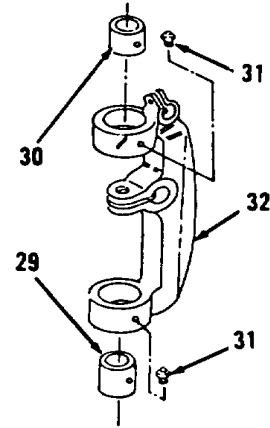
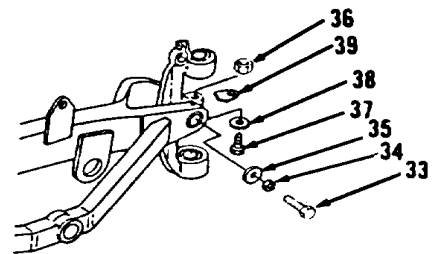
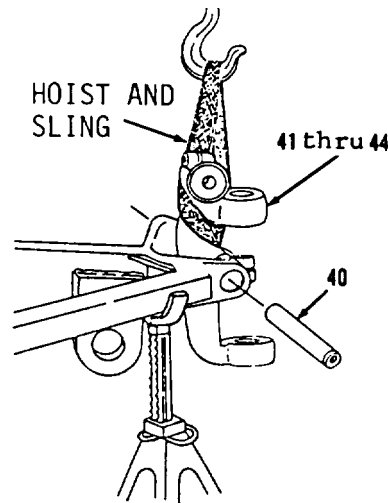
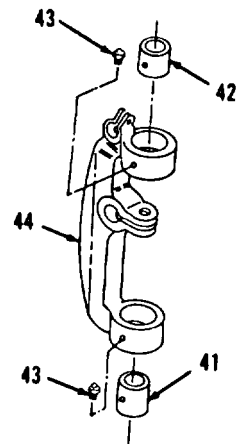

Figure 5-102.
Figure 5-103.
Figure 5-104.
Figure 5-105.
22. Using suitable puller, remove bearings (29 and 30, Figure 5-102).
23. Remove two fittings (31) from arm (32).
24. Remove two bolts (33) and washers (34 and 35, Figure 5-103) from left, front of vehicle.
25. Remove nut (36), bolt (37), washer (38) and lock (39).
26. Attach hoist and sling to items 41 thru 44 as an assembly (Figure 5-104).
27. Remove pin (40).
28. Remove items 41 thru 44 as an assembly.
30. Remove bearings (41 and 42, Figure 5-105).
31. Remove two fittings (43) from arm (44).
1. Install two fittings (43) on arm (44, Figure 5-105) on left, front of vehicle.
2. Using assembled spacer, nut, pulling adapter, washer, nut, puller assembly and pump group, install bearing (42) flush with lower surface of collar on arm (44).
3. Install bearing (41). These tools must also be used to install flush with upper surface of collar on arm (44).
4. Attach hoist and sling to items 44 thru 41 as an assembly (Figure 5-104).
5. Position items 44 thru 41 as an assembly on vehicle.
6. Install pin (40). Groove in pin (40) must align with opening in arm (44).
8. Install lock (39), washer (38), bolt (37) and nut (36, Figure 5-103). Tighten nut (36) to 515 ft-lb torque.
9. Install two washers (35 and 34) and bolts (33).